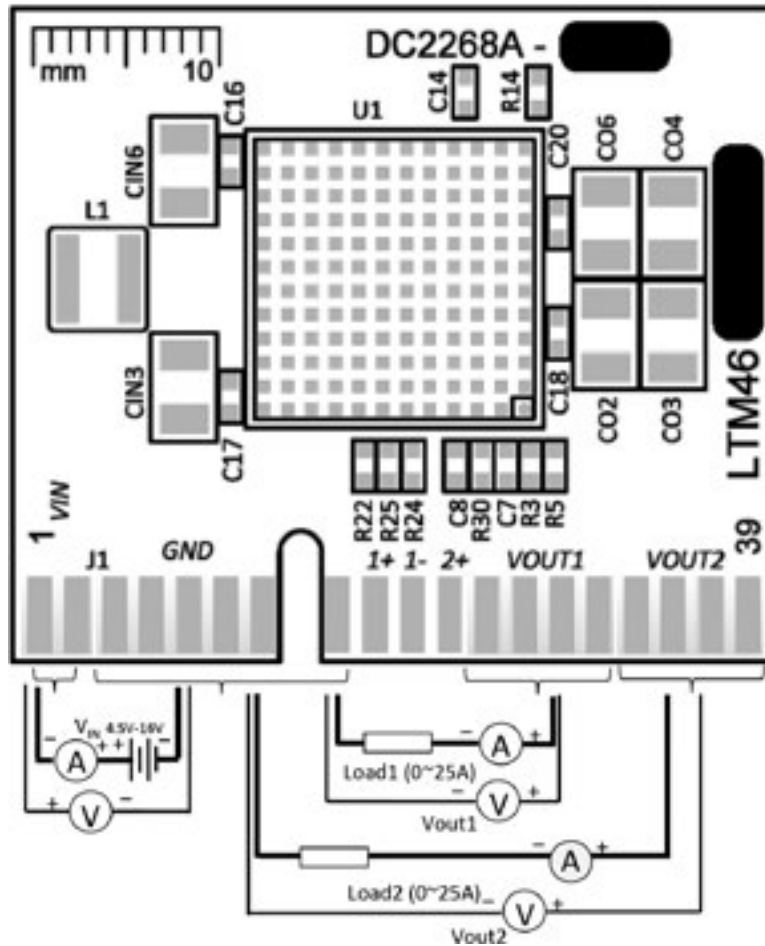

Figure 2. Test Setup of DC2268A-H
Demonstration circuit DC2268A-H is easy to set up to evaluate the performance of the LTM4650-1. It can be easily inserted to an edge connector (SAMTEC MEC2-20-01-L-DV-TR) for testing and debugging. Please refer to Figure 2 for proper measurement setup and follow the procedure below:
2. With power off, connect the input power supply, load and meters as shown in Figure 2. Preset the load to 0A and V_{IN} supply to 12V.